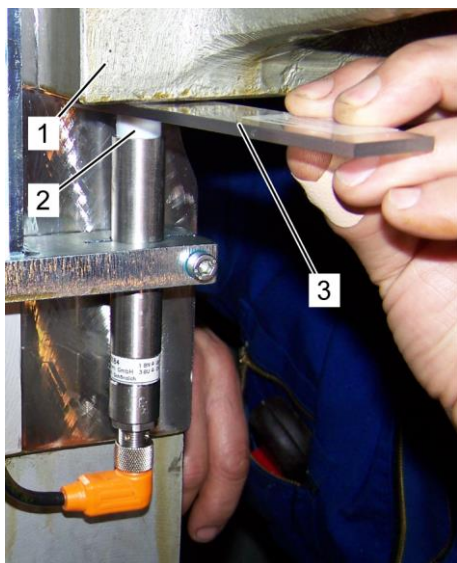
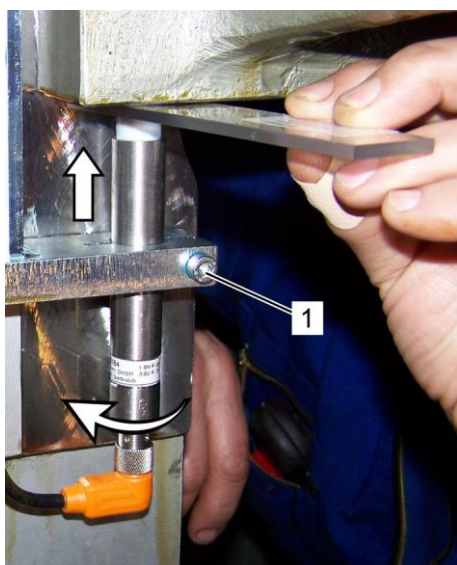

Fig. 36: Calibrating sensor
Fig. 37: Adjusting sensor
5. Insert the alignment pins (Fig. 36) into these holes carefully by using the hammer.
Only after the sensor bracket is installed with 2 bolts (Fig. 37/1).
2 additional holes (Fig. 37/2) for the alignment pins can be drilled and the pins (Fig. 37/3) inserted.
The depth of the holes (Fig. 37/3) should not exceed 10 mm !
Please use an accurate 5 mm drill. Insert the alignment pins (Fig. 37/3).
8. Insert the distance plate (Fig. 36/3) between crosshead (Fig. 36/1) and sensor tip (Fig. 36/2), to calibrate/adjust the distance
The illustrations in Fig. 36 and Fig. 37 show a profile type sensor bracket. The procedure is the same as for adjusting the tube type sensor brackets.
9. Clamp the sensor by tightening the clamp screw (Fig. 37/1).